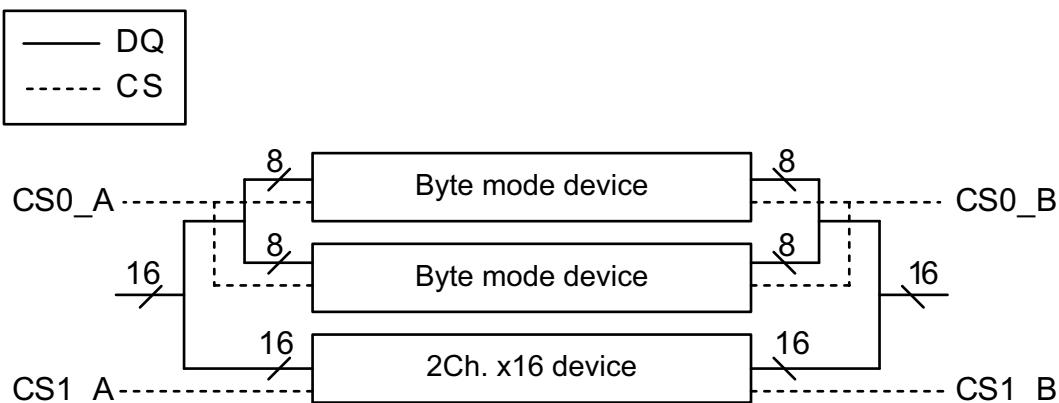

Figure 1 — Mixed package configuration example
- 3) Mixed - Packages configured with both Standard and Byte-Mode LPDDR4 die. In this mixed configuration, some ranks contain only Standard die and other ranks contain only Byte-Mode die (See package configuration example in Figure 1).
Standard LPDDR4 package ballmaps allocate one ZQ ball per die. Byte-Mode packages potentially support more die for higher package memory density. In order to use ballmaps developed for Standard LPDDR4, an alternate ZQ ball wiring strategy is employed when packages contain Byte-Mode devices as shown in Figure 1.